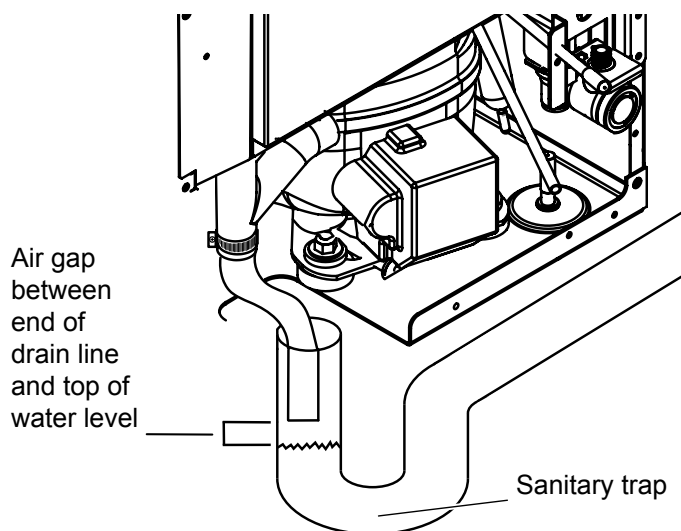

Figure 13: Example of an open drain.
- c. Your drain line is plumbed into an open drain (Figure 13).